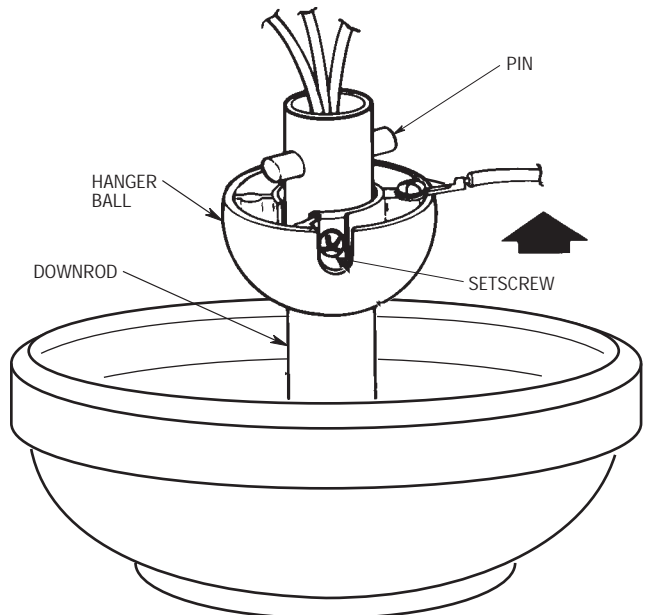

Figure 9
- 10. Reinstall the hanger ball (Figure 9) on the downrod as follows. Route the three 80" motor leads through the hanger ball. Position the pin through the two holes in the downrod and align the hanger ball so the pin is captured in the groove in the top of the hanger ball. Pull the hanger ball up tight against the pin and securely tighten the setscrew in the hanger ball. A loose setscrew could create fan wobble.